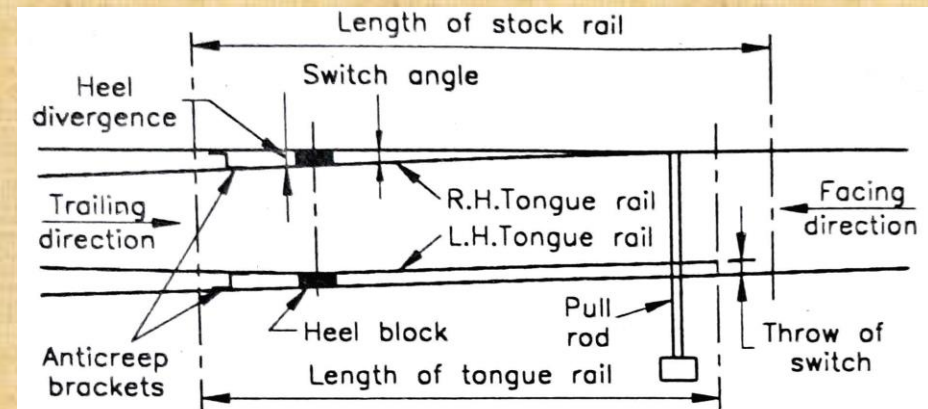

Fig. 16.7. Loose heel type Switch
**a. Loose heel type switch (Fig. 16.7 ).** In this type, tongue rails are joined to lead rails by means of fish plates. The two front bolts are kept loose to allow the throw of switch and these bolts are kept tight when the tongue is open. This is suitable for short length switches.